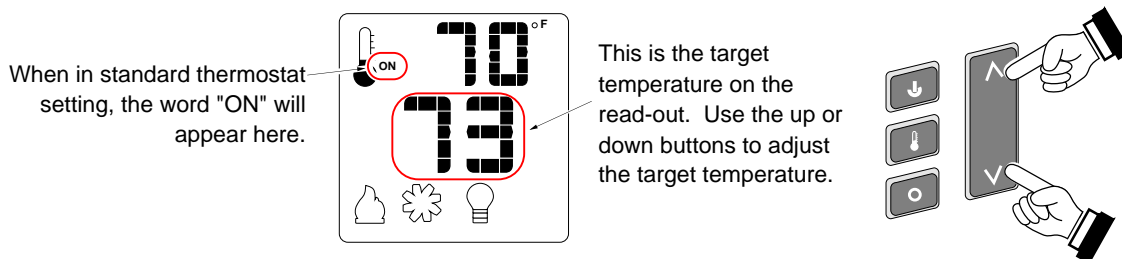

Figure 9
- STANDARD THERMOSTAT** - While in Standard Thermostat mode, the transmitter will turn the burner on and off to achieve the target temperature (see Figure 9 below). To adjust the target temperature, press the up and down buttons until a suitable temperature is achieved.